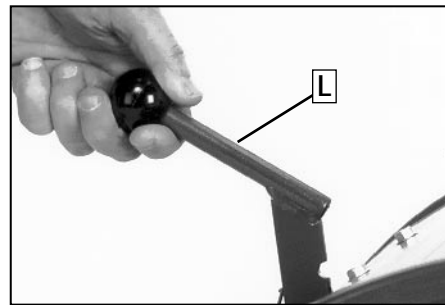

Figure 2-10: Put lever in second notch.
1. With the tiller on level ground, pull the Depth Regulator Lever (L, Figure 2-10) back and then slide it to the second notch from the top. **NOTE:** If the lever does not move, lift the tine hood flap and look for a plastic tie securing the lever in place. Cut and remove the tie.
- With the unit on level ground, move the Depth Regulator Lever (L, Figure 2-10) up or down until the engine is level.